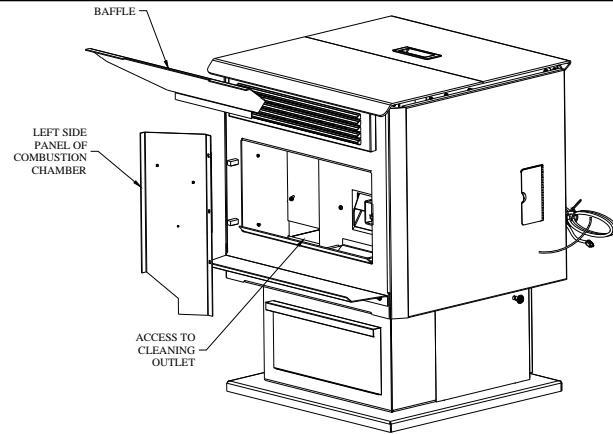

FIGURE 22
- c. **Chamber walls:** Periodically, you must vacuum the ashes that may have accumulated on the main walls of the combustion chamber. **START BY REMOVING THE DECORATIVE MASONRY-LIKE PANELS, WHICH ARE SIMPLY HELD BY SCREWS.** Scrape off ashes. Use a vacuum if necessary. There is also a cleaning outlet located behind the left side panel of the combustion chamber. Remove this panel using a screw driver. You will notice a small rectangular cleaning outlet. Inspect behind this outlet (see figure 22) Insert the vacuum tip through the cleaning outlet and clean thoroughly. **REPEAT THIS OPERATION AT LEAST ONCE PER TON OF PELLETS BURNED UNTIL YOU ARE FAMILIAR WITH HOW ASHES ACCUMULATE WITH YOUR OPERATING PRACTICES.**